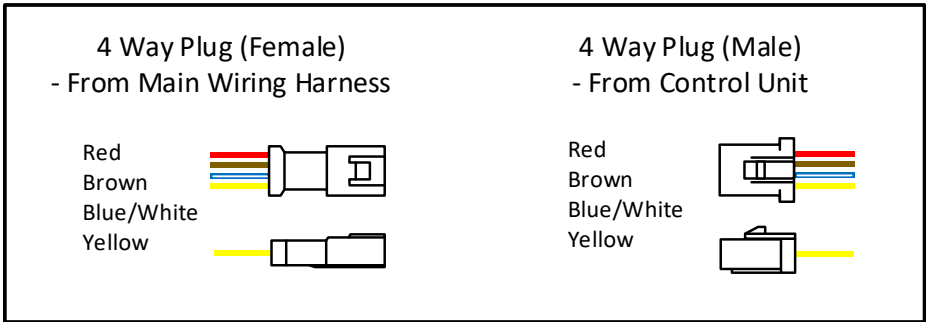

Figure 25
4. Insert the room temperature sensor. Plug into the main wiring harness as per figure 25.